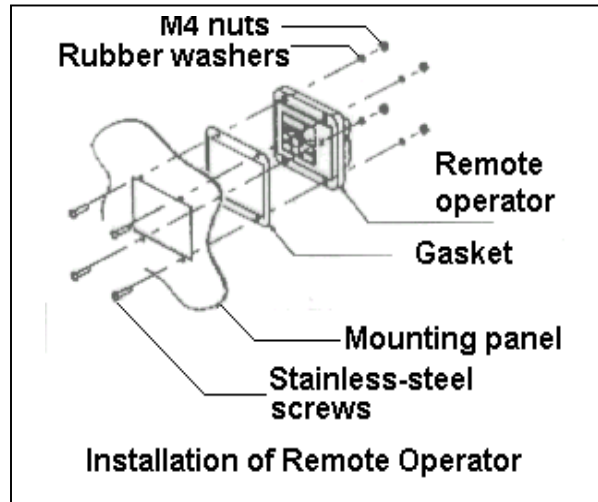

Figure 4: Flush Mount Installation
15. For a flush mount, apply the gasket to the front side of the digital operator, and install the remote operator from the rear side of panel. Insert the screws through the front side of the panel and then mount the washers and nuts to the rear side of the panel. Four washers are not needed in this application. Tighten screws gradually from the front side of the panel to prevent damaging the rubber gaskets. See Figure 4.